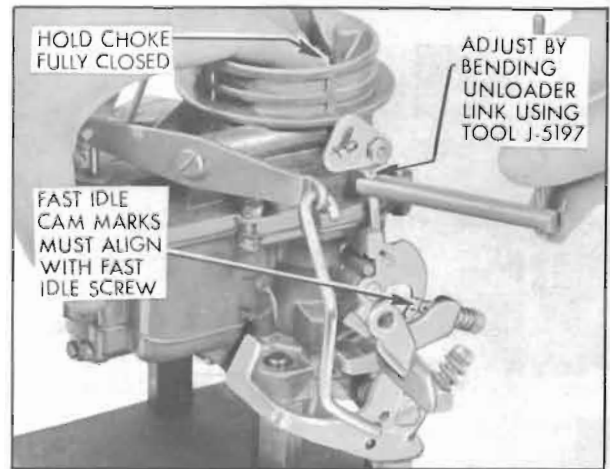

Figure 3-67—Fast Idle Cam Adjustment
8. With choke valve held fully closed, fast idle screw should now rest between the two index marks on the fast idle cam. If cam position is not correct, bend unloader link as required using Tool J-5197. See Figure 3-67.